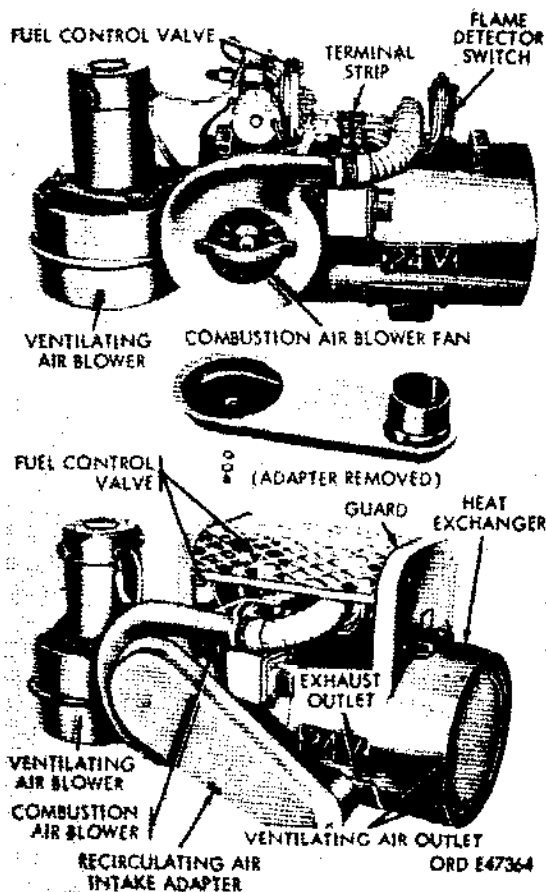
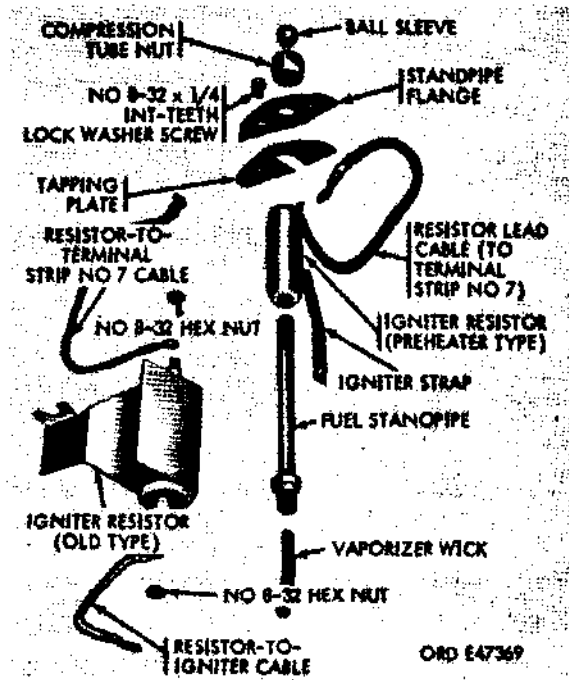
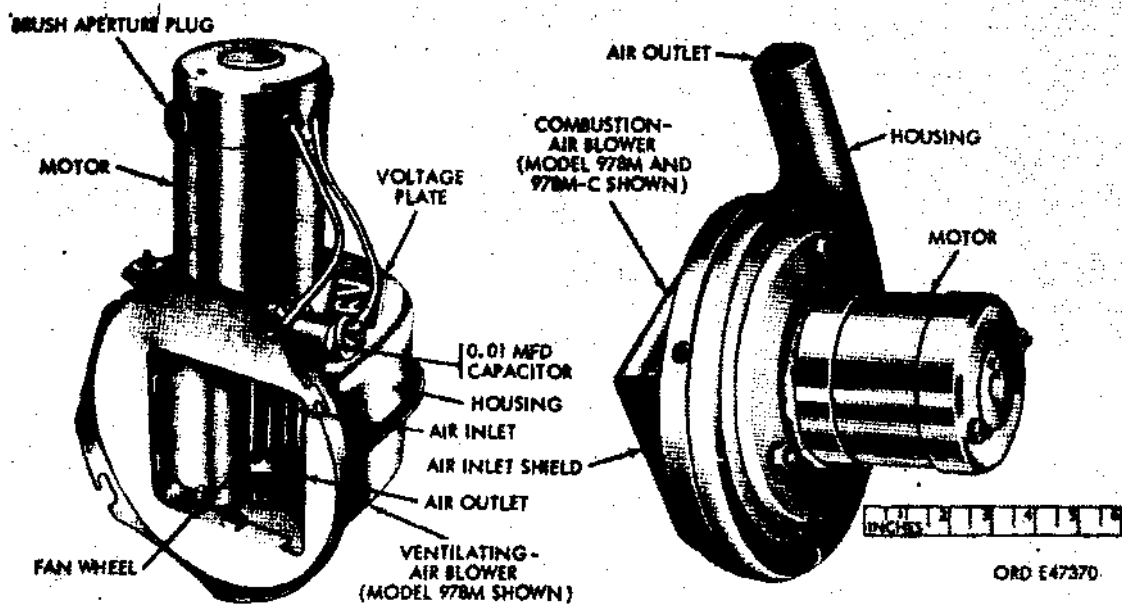

Figure 575. Personnel heater model
Figure 580. Standpipe and vaporizer wick
Figure 581. Ventilating-air and combustion-air blowers
(2) Gasoline burning heater (fig. 575).
- (e) The heat exchanger of the Model 978-MR heaters has an auxiliary exhaust outlet at right angles to the regular outlet on the bottom of the heat exchanger. This is an oval tube which is welded into the side of the heat exchanger, for use with the recirculating combustion air intake adapter (see fig. 575).
- (9) Standpipe and vaporizer wick (fig. 580). The fuel valve standpipe connects the fuel valve (fig. 575) to the igniter pocket in the heat exchanger (fig. 575). The vaporizer wick is a stainless steel wire mesh pad and is partially threaded into the heat exchanger end of the standpipe. When the standpipe is screwed into the igniter pocket, the pad extends inside where it is saturated by the fuel flowing from the valve to the exchanger.
- (10) Combustion air blower assembly (fig. 581). The combustion air blower assembly consists of a motor, blower wheel and housing. It is designed to supply the proper amount of air to maintain the correct fuel-air ratio. The blower assembly can be removed from the heater housing in one piece due to the type of mounting provided. An adapter is used to effect recirculation of exhaust gases (fig. 575).
- (11) Ventilating air blower assembly. The ventilating air blower assembly (fig. 581) which consists of a heavy-duty, ball bearing, 1/40 H.P. motor, "squirrel cage"-type blower and housing, is mounted on the upstream end of the heater by means of four studs on the heater housing. This blower assembly provides a ventilating air flow of approximately 6 pounds per minute. The blower is suppressed to prevent interference with radio equipment.